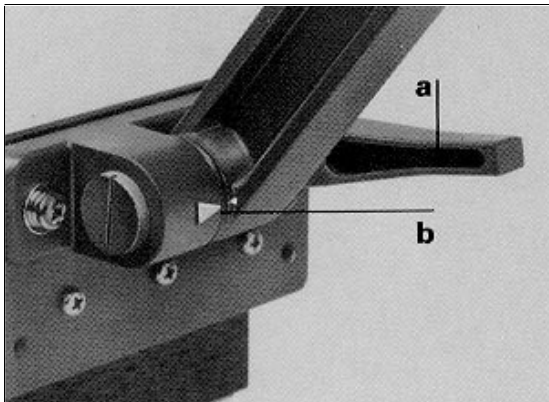

Figure 2-50. Aligning Lamp Arms
- d. Loosen the locking lever (a, figure 2-50) and adjust the angle of each arm so the indicators (b) are aligned. This will place the lamps at the correct angle for most photography.